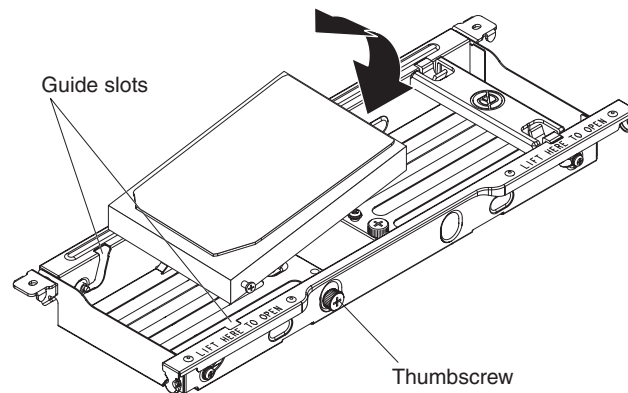

Figure 36. Removing a drive from bay 5
6. Lift the rear of the drive out of the hard disk drive bracket; then, slide the shoulder screws at the front of the drive out of the guide slots in the hard disk drive bracket (see Figure 36).